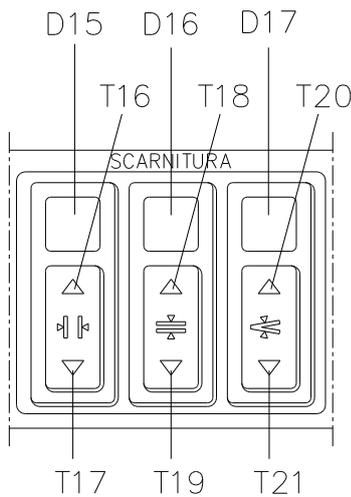

fig. 7
8.3 TASTIERA - SCARNITURA fig.7